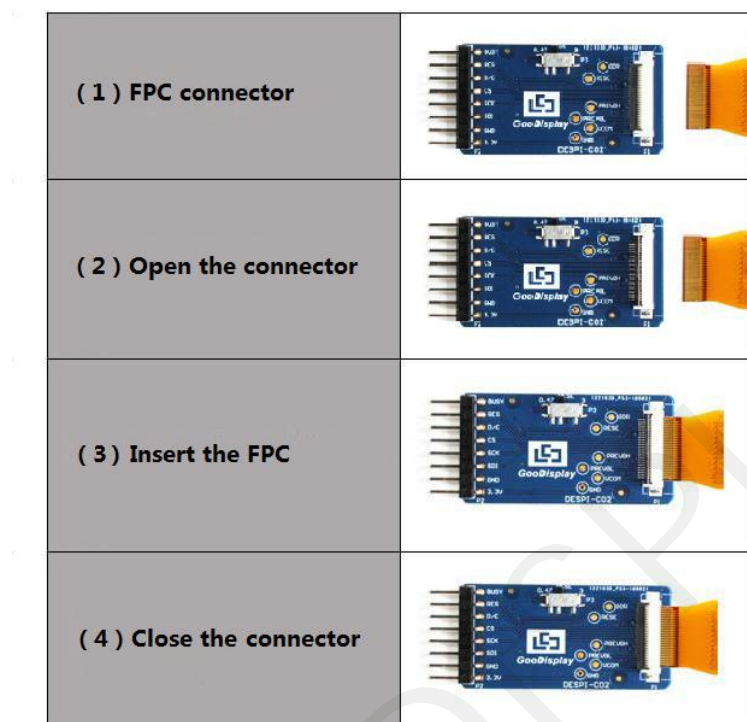

Figure 5 : Connection between DESPI-C02 and e-paper
2) Insert the e-paper FPC gold finger upward into the P1 connector of the adapter board as shown in Figure 5.